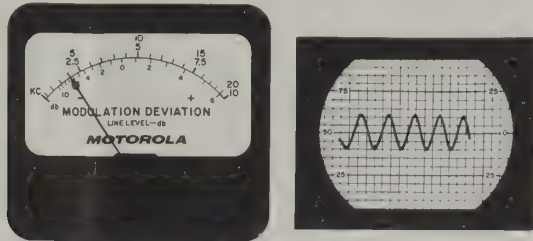

Figure 1.
- (1) If the transmitter is a part of "Private-Line" station remove the "Vibrasender" resonant reed from its socket.
- (2) Connect the oscilloscope to the monitor oscilloscope terminals, and set up the monitor controls in accordance with the monitor instruction manual.
- (3) Turn the IDC control on the transmitter chassis to the full clockwise position.
- (4) Feed a 1000 cps test tone into the transmitter audio input. Modulate the transmitter with this tone so adjusted that the deviation as read on the FM monitor deviation meter is  $\pm 2$  kc. An audio oscillator must be used for generation of this tone, since a sinusoidal waveform is very important. The Motorola TEK-1A Transistorized Tone Generator is excellent for this purpose.
- (5) Adjust the vertical gain of the oscilloscope so that the total recovered (peak-to-peak) audio pattern occupies some convenient height, e.g., four small squares, as shown in figure 1.